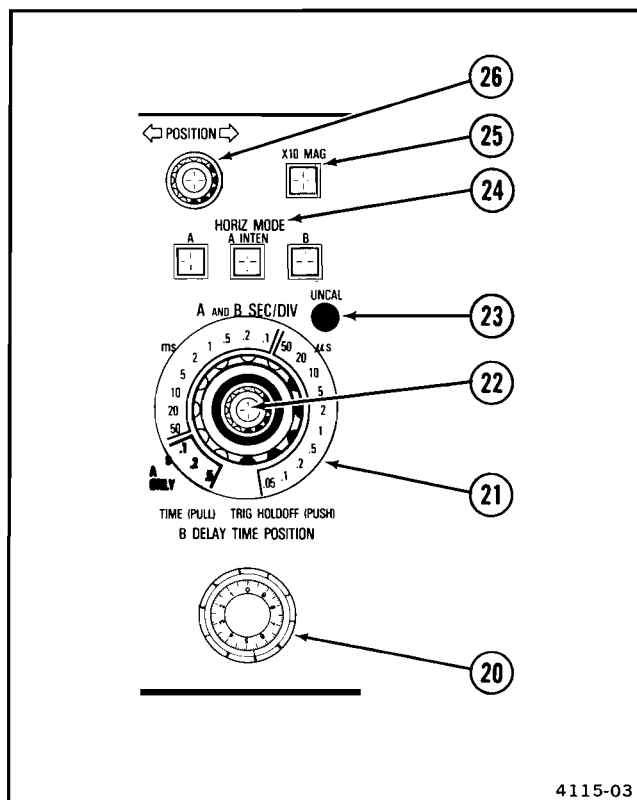

Figure 2-5. Horizontal controls and indicator.
Refer to Figure 2-5 for location of items 20 through 26.
- ⑳ **B DELAY TIME POSITION Control**—Selects the amount of delay time between the start of the A Sweep and the start of the B Sweep. Delay time is variable from 0.05 times to 10.0 times the A SEC/DIV switch setting.